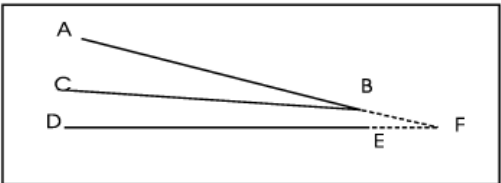

FIGURE 3 Linear extension, example 2
- In Figure 3, lines AB and DE cannot be extended to point F, even though the distance BF is less than the tolerance for AB and EF is less than the tolerance for DE. This is because B is not a free end.